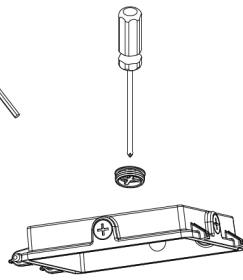

Figure 2-2
2. Loosen the 3/4" plug on the fixture housing cover with a screwdriver. Figure 2-2